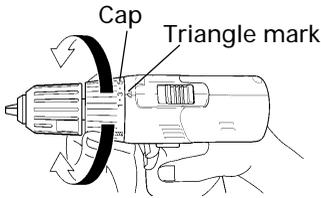

Fig. 15
5. Confirm the cap position (see Fig. 15)
(2) Tightening torque indication (See Fig. 15)
(3) Adjusting the tightening torque (See Fig. 15)